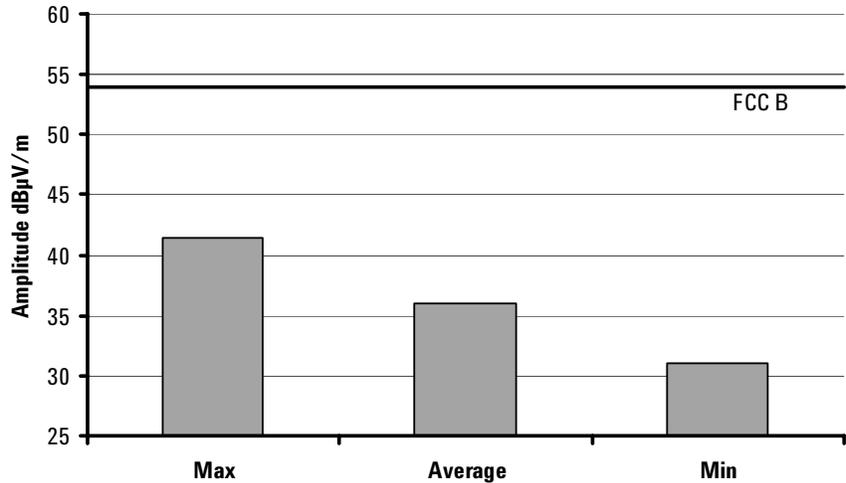

Figure 18. Radiated emissions for HFCT-5942L/AL
Agilent encourages using standard RF suppression practices and avoiding poorly EMI-sealed enclosures. The evaluation board used for EMI testing contains one HFCT-594x transceiver. Layout was per the recommendations in application note AN1232 and pin sockets were used in the mounting holes allowing easy installation and removal of the transceiver. An OC-48 SONET structured pattern with a 223 -1 PRBS payload was optically fed to the receiver side. The electrical output of the receiver was looped back directly to the transmitter through 50 stripline. For simulated chassis measurements, the evaluation board was screwed into a RF tight metal box with the recommended panel openings for the LC transceiver. A battery inside the box was used to supply +3.3 V dc bias to the board. The RF box was manipulated +360 ° over all three axes to determine maximum available emissions. EMI response was measured under simulated chassis conditions and Figures 18 and 19 show the worst EMI response when measured from 100 MHz to 12 GHz. For both intermediate and short reach, the highest peak was recorded at 4.98 GHz.
- HFCT-5942L/AL: 17 short reach modules were measured and the maximum emission was 41.4 dB μ V/m at 4.96 GHz (see Figure 18).